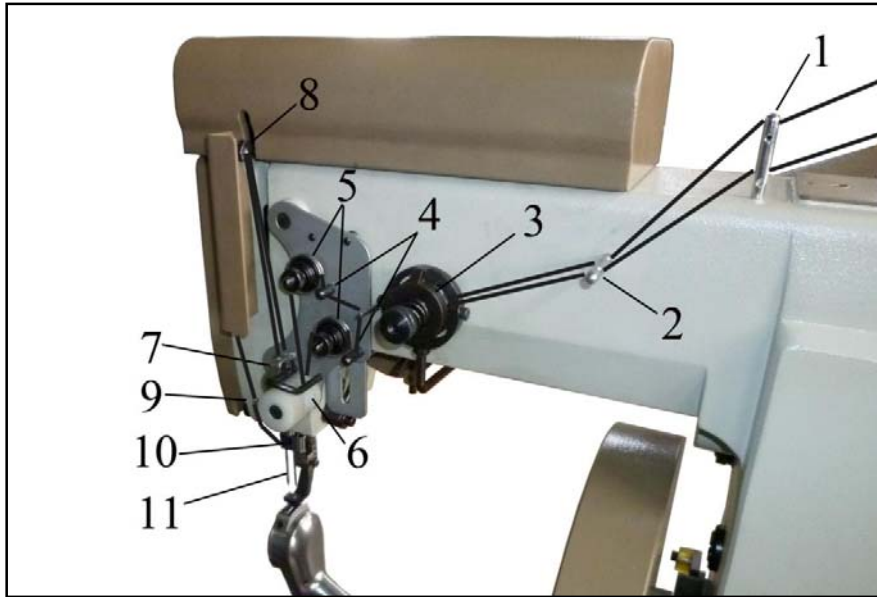

Fig.2
- Threading the needle thread by the path indicated in **Fig.2**
(1) Threading rod (2) Threading rod (3) Thread gripping holder (4) Threading rod (5) Tightener (6) Threading wheel (7) Take-up leaf (8) Take-up lever (9) Thread carrier (10) Needle holder (11) Needle